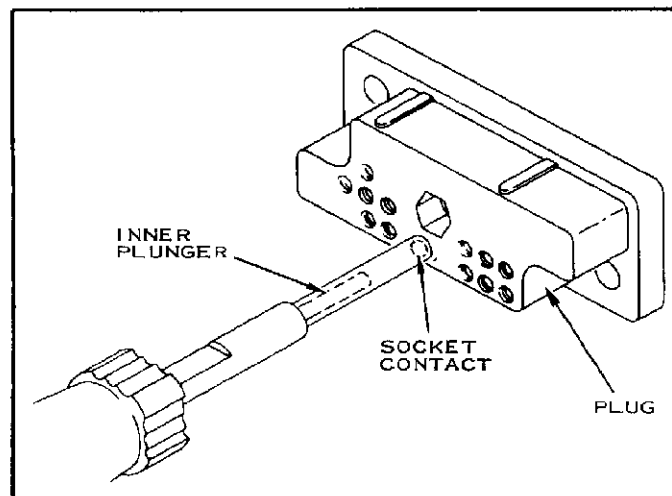

FIGURE 3
2. Push the Tip straight into the cavity until the Shoulder bottoms on the face of the connector as shown in Figure 3.